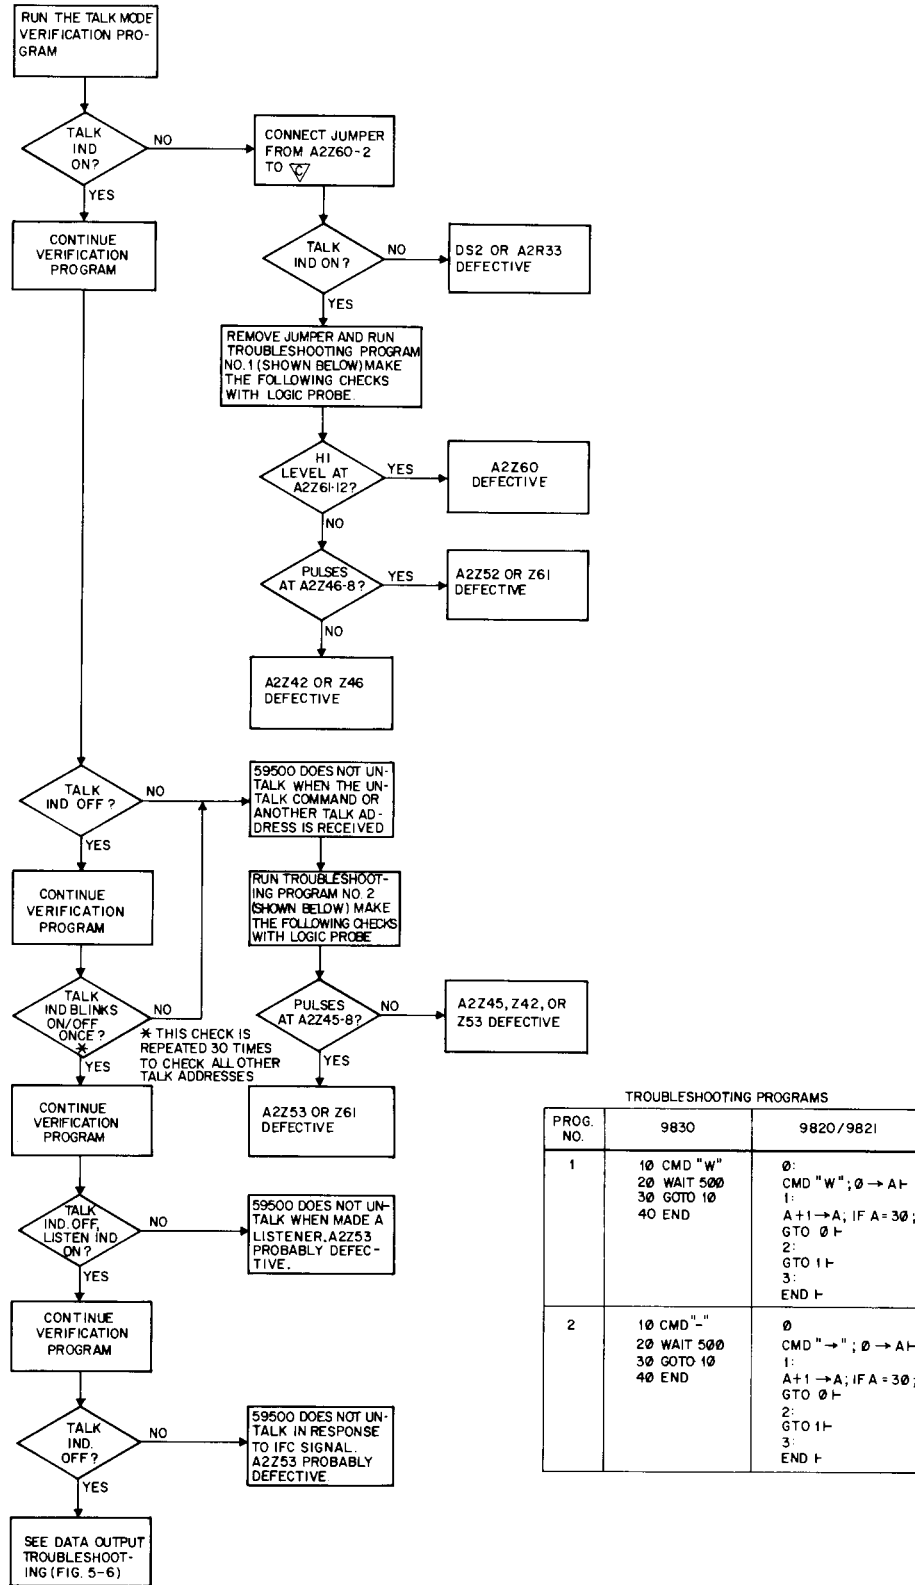

Figure 5-5. Talk Mode Troubleshooting
- Figure 5-5: Talk Mode Troubleshooting